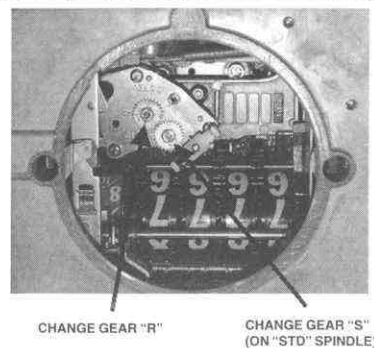

FIGURE 9
1. Check the number of teeth on the change gears (See Figure 9). They must be the same as the gears on the old register **and on the same respective spindles**. The number of teeth is stamped on each gear. To remove these gears, close the split end of the spindle with a pair of pliers and pull off the gear. After putting on a gear, spread the end of the spindle slightly.